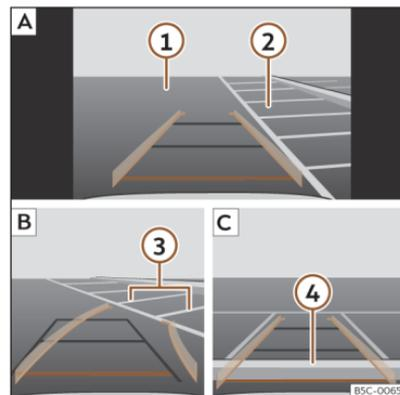

Fig. 152 Display on the infotainment system screen: parking with the reverse assistant.
Key to the >>> **Fig. 152:**
- Stop the vehicle in front of the parking space >>> **Fig. 152** **2** **A**.